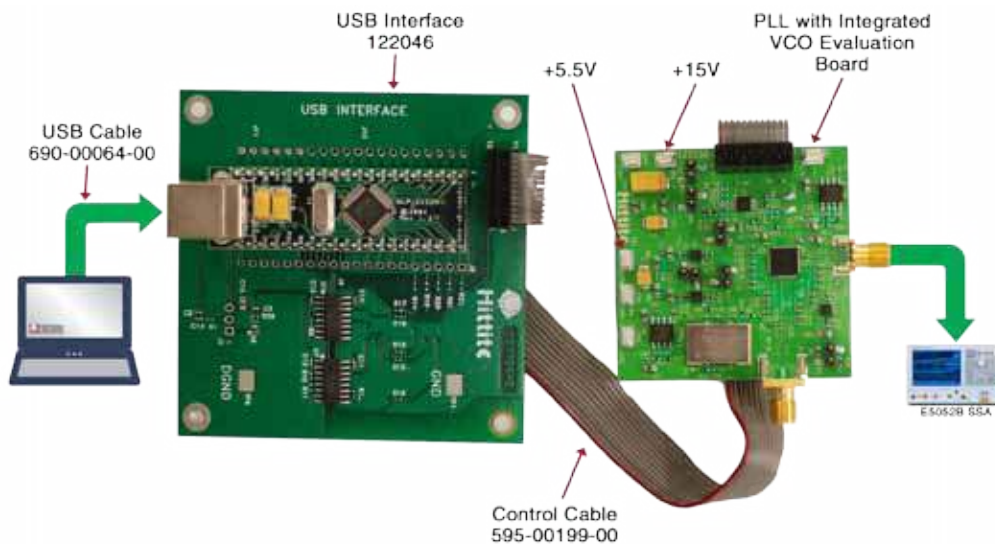

Figure 1. Typical Setup of PLL with Integrated VCO Evaluation Board
The evaluation board of Hittite fractional PLL with integrated VCO should be set up as shown in the Figure 1. It should be noted that very low noise PLL with Integrated VCOs are sensitive to noisy power supplies. The evaluation board provides on-board regulators to isolate the +5.5V supply from the PLL analog and digital +3.3V supplies, the PLL Charge Pump +5V supply and the VCO +5V supply. The VCXO is also regulated separately to +3.3V from the +5.5V external supply.
**Step 2.** Setup the evaluation board as shown in Figure 1.